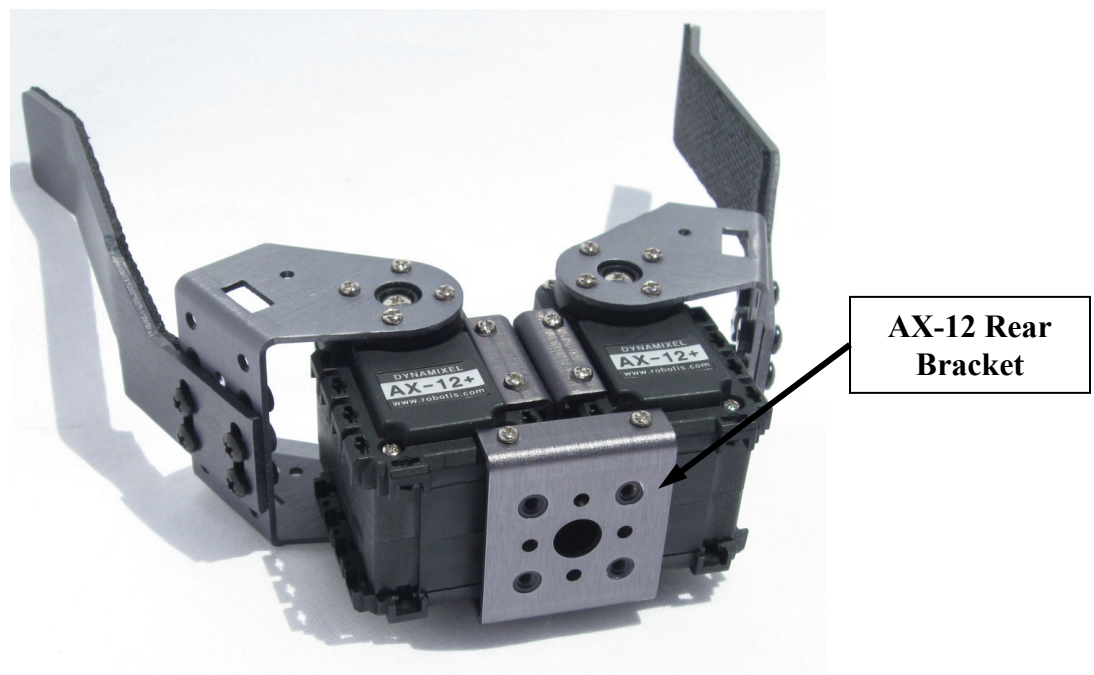

Figure 9
9. Using (4) 2mm screws, install the AX-12 Rear bracket to the (2) gripper servos as shown in figure 9.